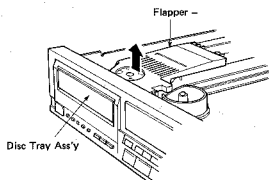

Fig. 2
a. Lift the flapper and pull out the disc tray ass'y in Fig. 2.